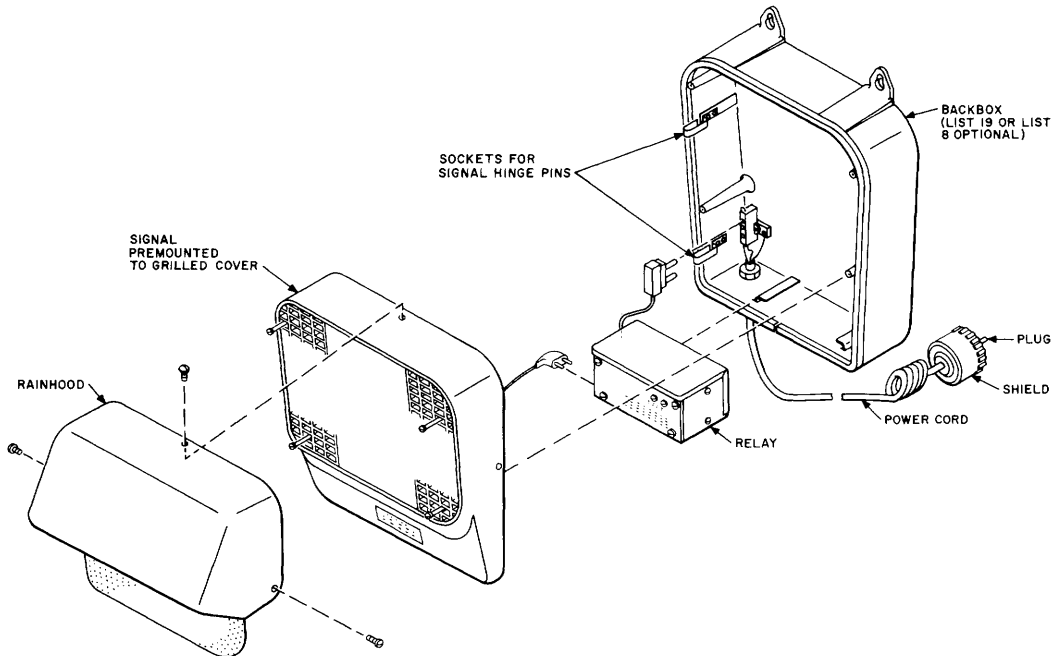

Fig. 1—Exploded View of Assembled Signal Using Relay
3.03 A typical signal (Fig. 1) includes a backbox, a signal premounted to a grilled cover, and a control relay.
3.07 Backbox (Fig. 1, 3, 5, 19, and 20)
- Mount relay in the horizontal position on mounts provided in backbox (Fig. 1).
- Engage the two pins on front cover to form a hinge with the two sockets which emerge from backbox (Fig. 1).
- Fasten the signal to the backbox with four machine screws which are furnished (Fig. 1).
- Attach with furnished screws to the signal unit (Fig. 1).